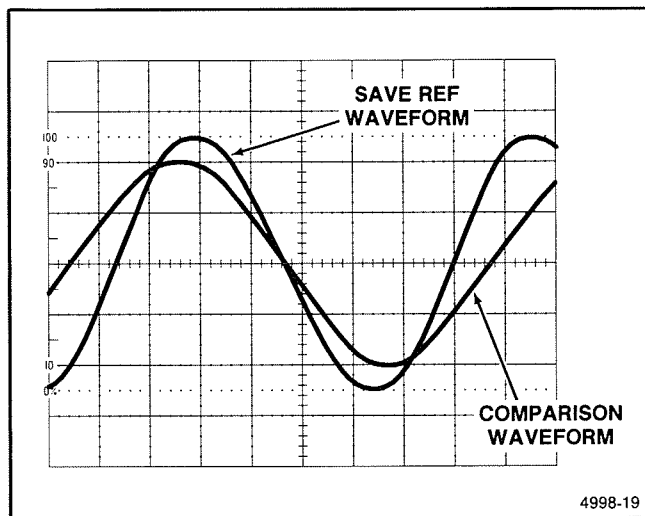

Figure 6-6. Waveform comparison.
- Use the selected channel's Vertical POSITION control to overlay the newly acquired waveform on the reference waveform for making the comparison (see Figure 6-6). The vertical deflection and sweep rate remain calibrated to allow direct measurement from the graticule, or cursors may be used to determine voltage or time differences.